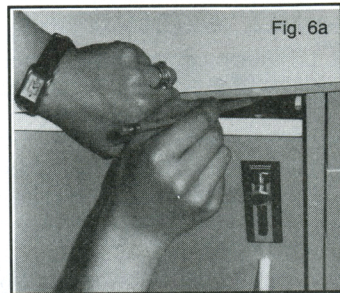

Fig. 6a
2. Close the door; mark the location where the latch bolt hits the frame. (See fig. 6a)